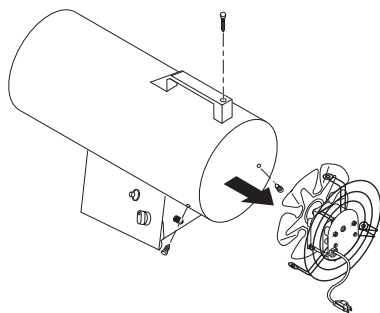

Figure 10 - Removing Motor and Fan Guard from Heater
2. Remove motor and fan guard from heater shell (see Figure 10).
2. Remove motor and fan guard from heater shell (see Figure 10, page 7).